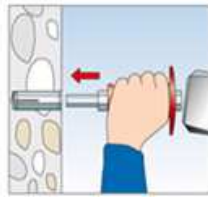
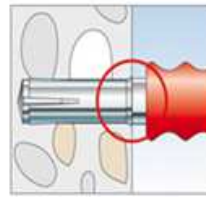

Figure 3
Figure 4
4. The sleeve is then expanded with the driving tool (thin side Ø13 mm) by driving in the internal pin and braced against the borehole wall [Fig. 3 and Fig. 4].